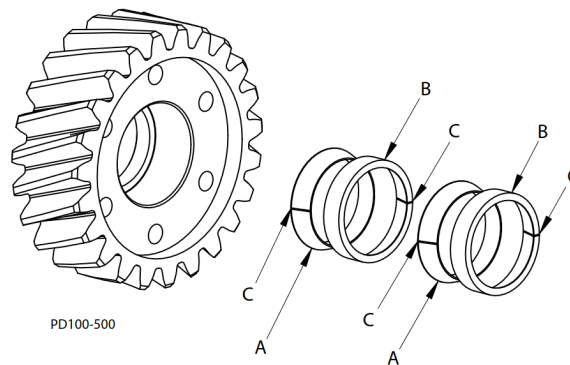
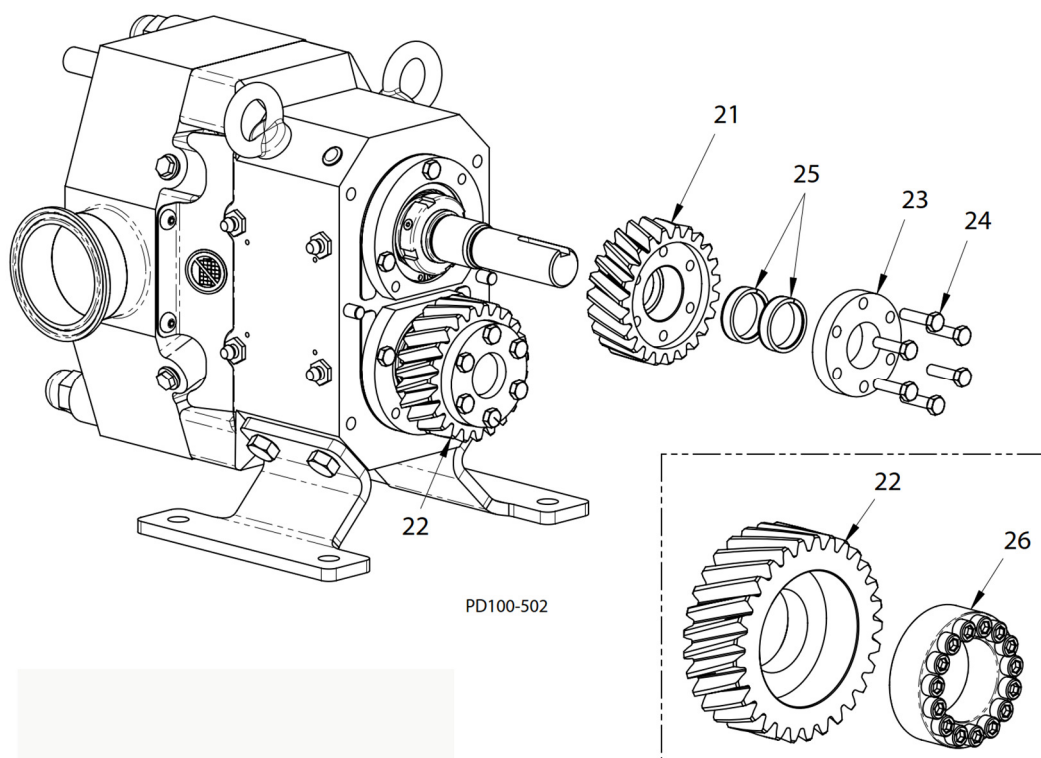

Fig. 60: Locking Element Assembly
Fig. 61: Gear Mounting
2. Assemble the gear (Figure 61, item 22) and locking components onto the lay shaft.
- For models 25-1 to 50-1, this refers to the locking elements (Figure 61, item 25), clamp ring (item 23), and screws (item 24).
- For models 50-2 to 100-1, this refers to the locking assembly (Figure 61, item 26 (inset)).
3. The locking elements (Figure 61, item 25, detailed in Figure 60) consist of a slit inner ring and a slit outer ring. For proper performance, the elements must be assembled in the following order: inner ring (A), outer ring (B), inner ring (A), outer ring (B); with the slits in the rings (item C) staggered 180° apart as shown in Figure 60.
8. Assemble the gear (Figure 61, item 21) and locking components onto the drive shaft.